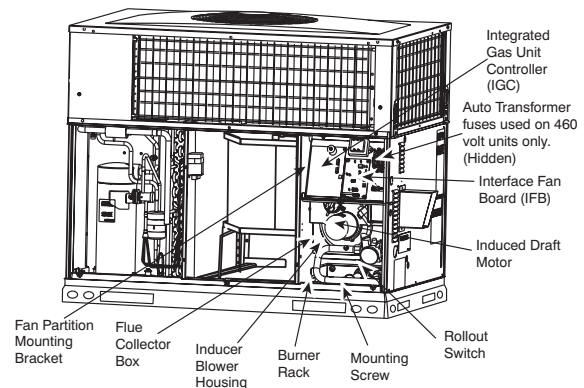

Fig. 19 - Blower Housing and Flue Collector Box
2. Remove the 11 screws holding the flue collector box cover (See Fig. 19) to the heat exchanger assembly. Inspect the heat exchangers.
Unit is equipped with a direct spark ignition 100 percent lockout system. Ignition module (IGC) is located in the control box (See Fig. 19). Module contains a self-diagnostic LED. During servicing, refer to label diagram or Table 7 in these instructions for LED interpretation.
5. Remove fan partition mounting bracket (2 screws located on the left side of control compartment on the fan partition panel). Slide bracket forward, bottom first, to remove. (See Fig. 19.)
7. Remove the mounting screw that attaches the burner rack to the unit base (See Fig. 19).
8. Partially slide the burner rack out of the unit (see Fig. 19 and 22). Remove ignitor and sensor wires at the burner assembly. Remove wires to rollout switch.
9. Slide the burner rack out of the unit (See Fig. 19 and 22).